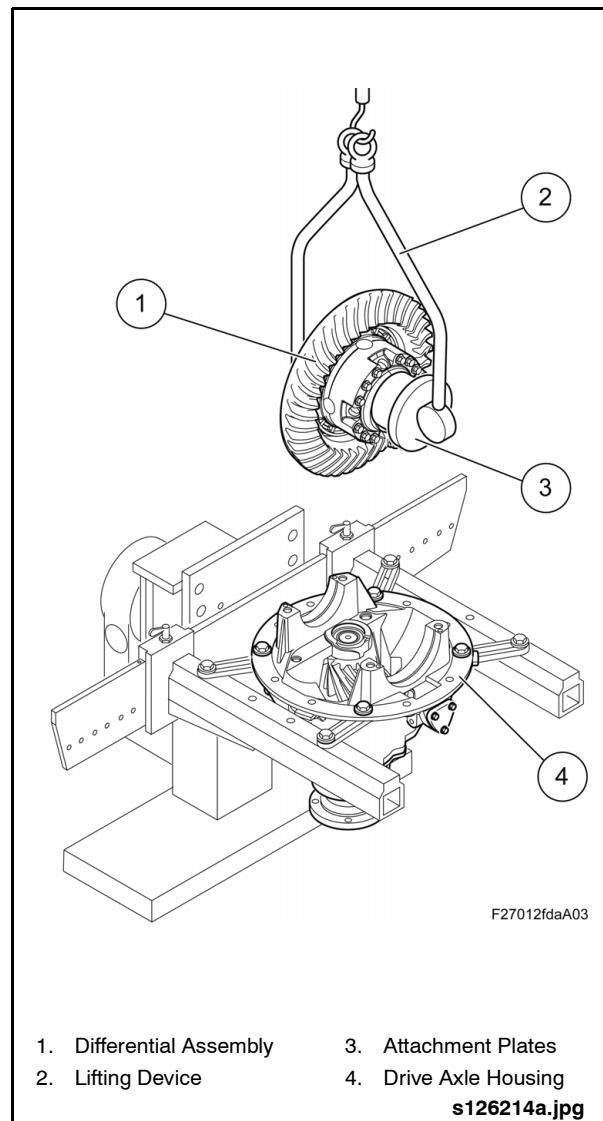

Fig. 2-49: Removing Differential Assembly
1. Use a hoist with Lifting Device (Item 47 from Special Tools List) and Attachment Plates (Item 49 from Special Tools List) to lift the differential out of the axle gear housing. See "Fig. 2-49: Removing Differential Assembly" on page 43.